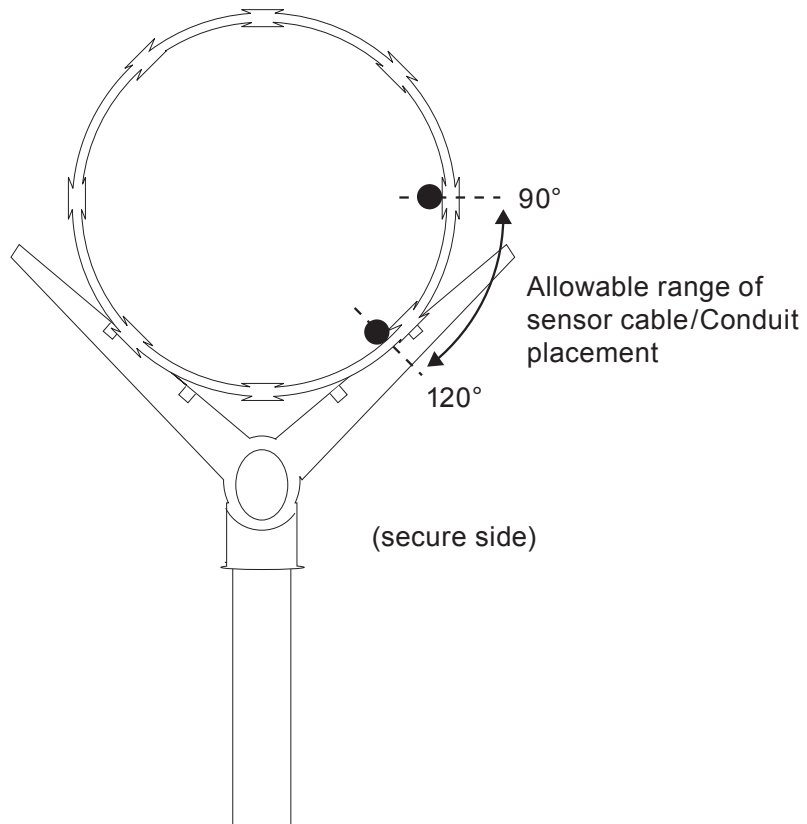

Figure 3 - Sensor cable placement on the top guard coils
3. Position the cable/conduit assembly on the “secure” side of the coils (Figure 3). Using stainless steel wire ties, attach the sensor cable/conduit between 90° to 120° down from top dead center of the coils